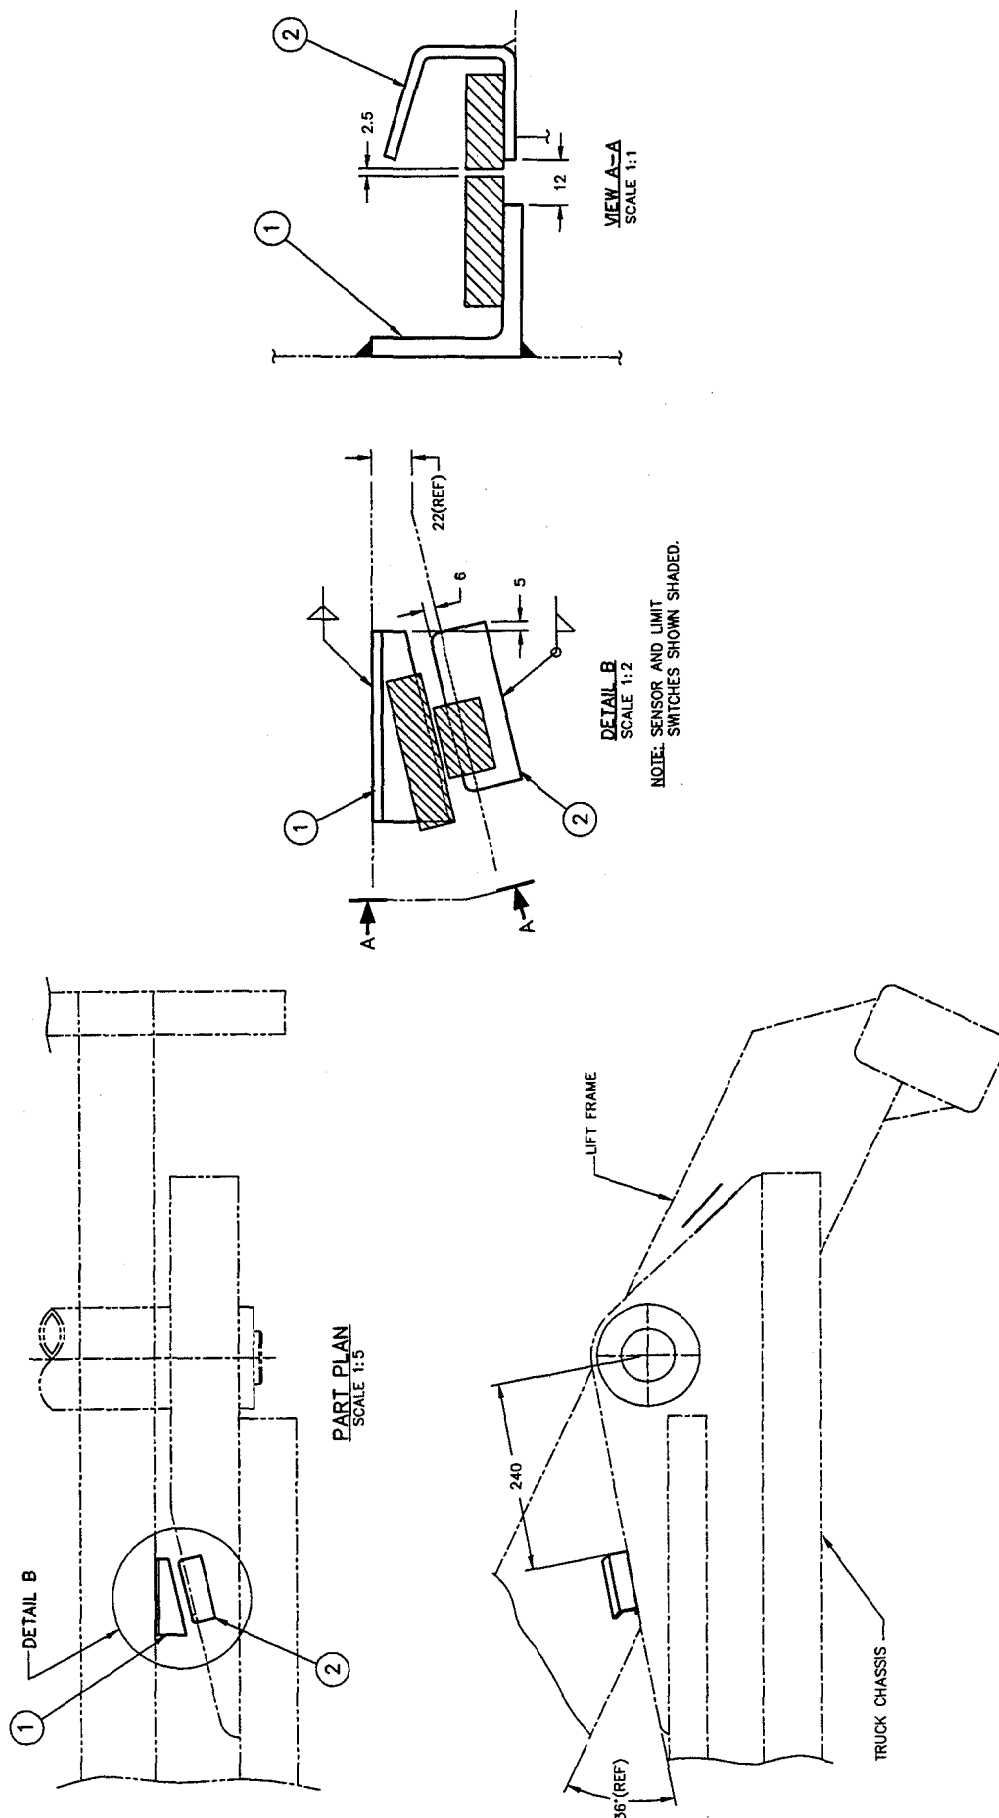

Figure 5 - Lift Frame Switch and Bracket Locations
16. Position and weld the Mounting Bracket, Sensor to the chassis (as detailed in Figure 5) and mount the actuator magnet.
17. Mount the proximity switch on the Mounting Bracket, Switch. Position the bracket (as detailed in Figure 5), and tack weld the bracket. Remove the switch prior to completing the weld on the bracket.
19. Position actuator magnet and proximity switch (as detailed in Figures 5 and 6). The wires from the switch should be positioned under the rear of the lift frame and cross at the pivot to meet up with the wiring to the original switch.